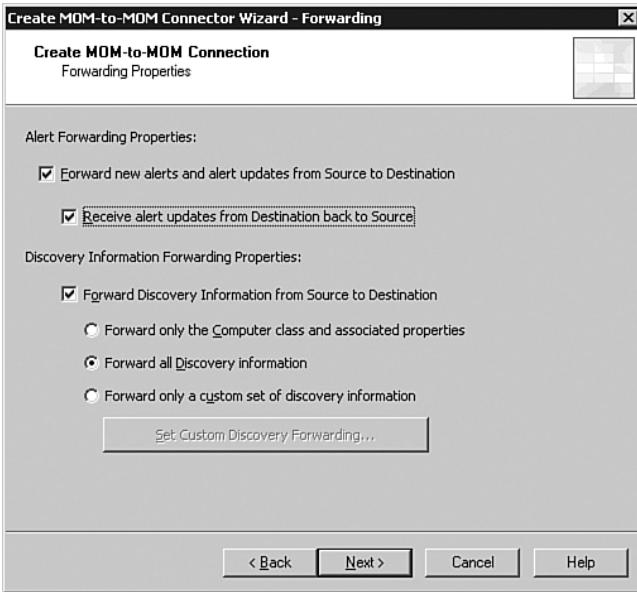

FIGURE 19.9 MMPC forwarding properties.
- ▶ Forward Only a Custom Set of Discovery Information allows for an input file that contains only those attributes you want to forward. In the example shown in Figure 19.9, we selected to forward all discovery information to the destination management group.